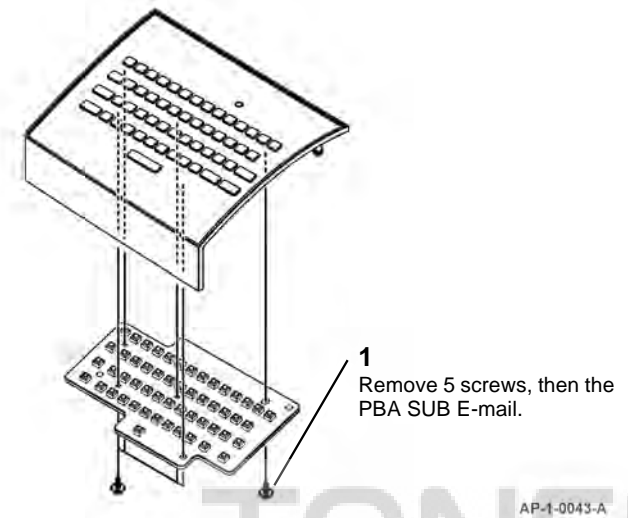

Figure 6 PBA SUB E-mail removal
7. Remove PBA SUB E-mail, Figure 6.